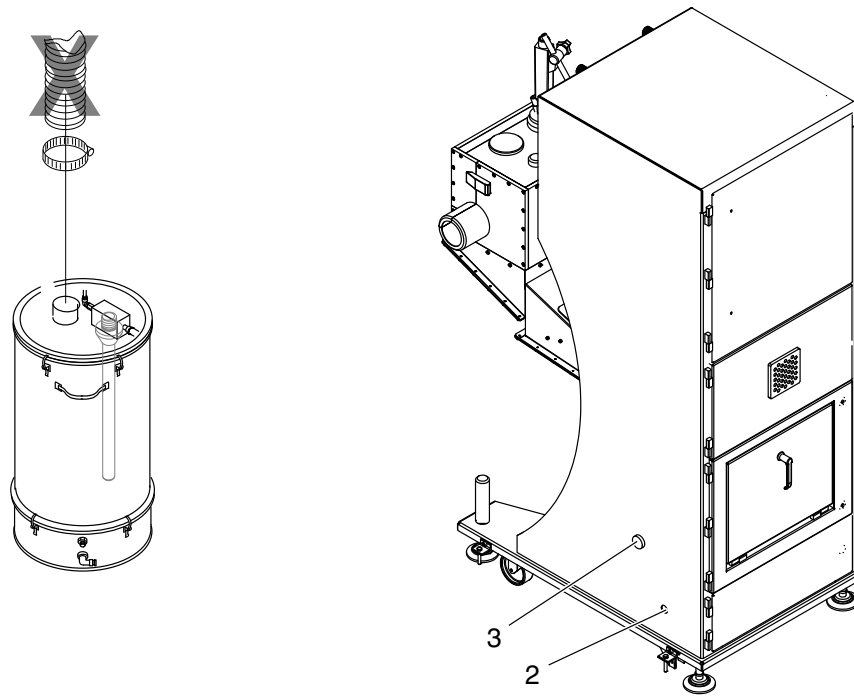

Fig. 3-13
5. Replace the blind fitting *Hopper* (2, Fig. 3-13) with the bulkhead gland found in a bag in the lower part of the system. Screw the bulkhead gland onto the system wall such that the smaller diameter points into the system.
7. Remove the blind fitting (3, Fig. 3-13) and save it for later use. The nut will be needed later.